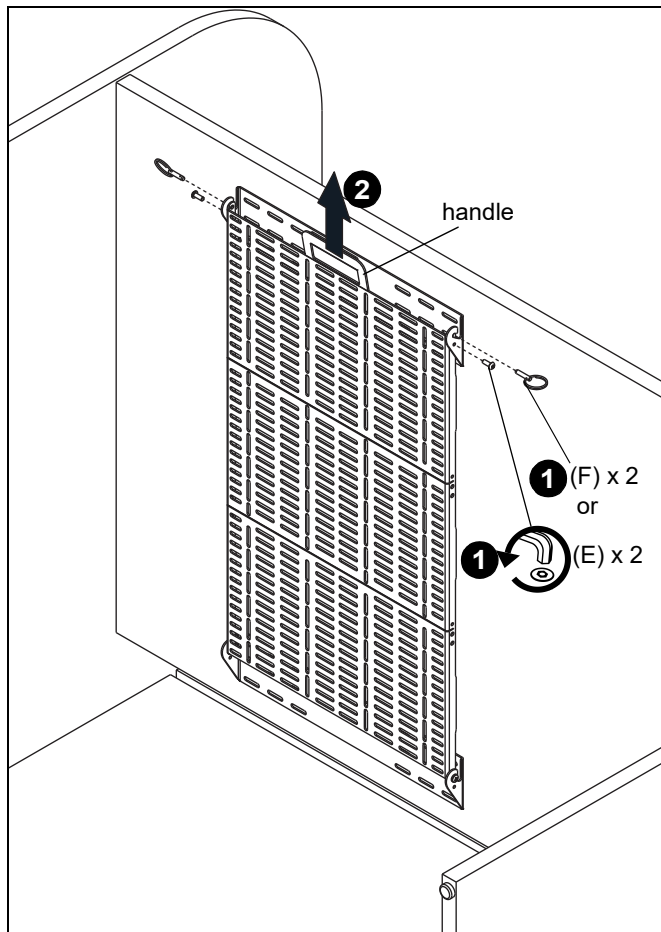

Figure 8
1. Remove security screws (E) or quick release pins (F) holding accessory desk plate (A) and to front wall bracket (B). (See Figure 8)
2. Grab handle and pull accessory desk plate (A) straight out until removed from desk brackets (B). (See Figure 8)